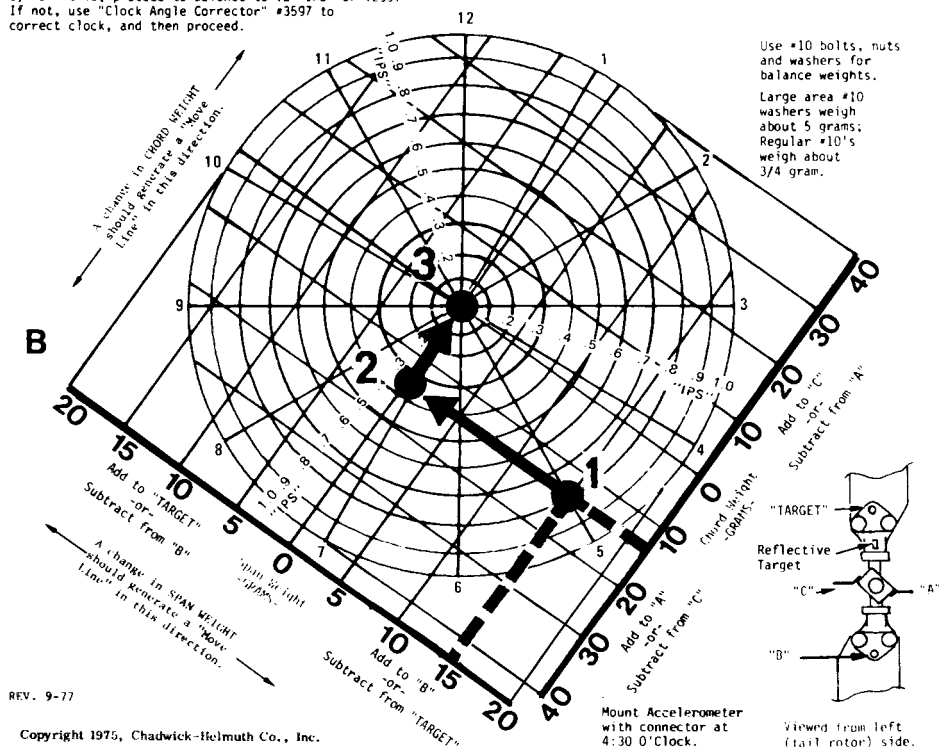

Figure 2-7. Accurate Tail Rotor Check
d. Refer to figure 2-7. A reading of 5:00 o'clock at 0.8 IPS is plotted on the chart as point 1. As can be seen, this calls for a weight addition of about 14 grams at A and 15 grams at B. Since the B reading is farther from the zero axis, we add 15 grams to B only and nothing to A. The next plot point is shown as 2 and should be at 7:15 o'clock, and about 0.35 IPS. The move line is now parallel to the arrow, corresponding to the span weight change. Now, addition of the 14 grams to A (chordwise) should move the plot point to the center of the chart, point 3, for perfect balance. In practice, a reading of 0.2 or better is acceptable.